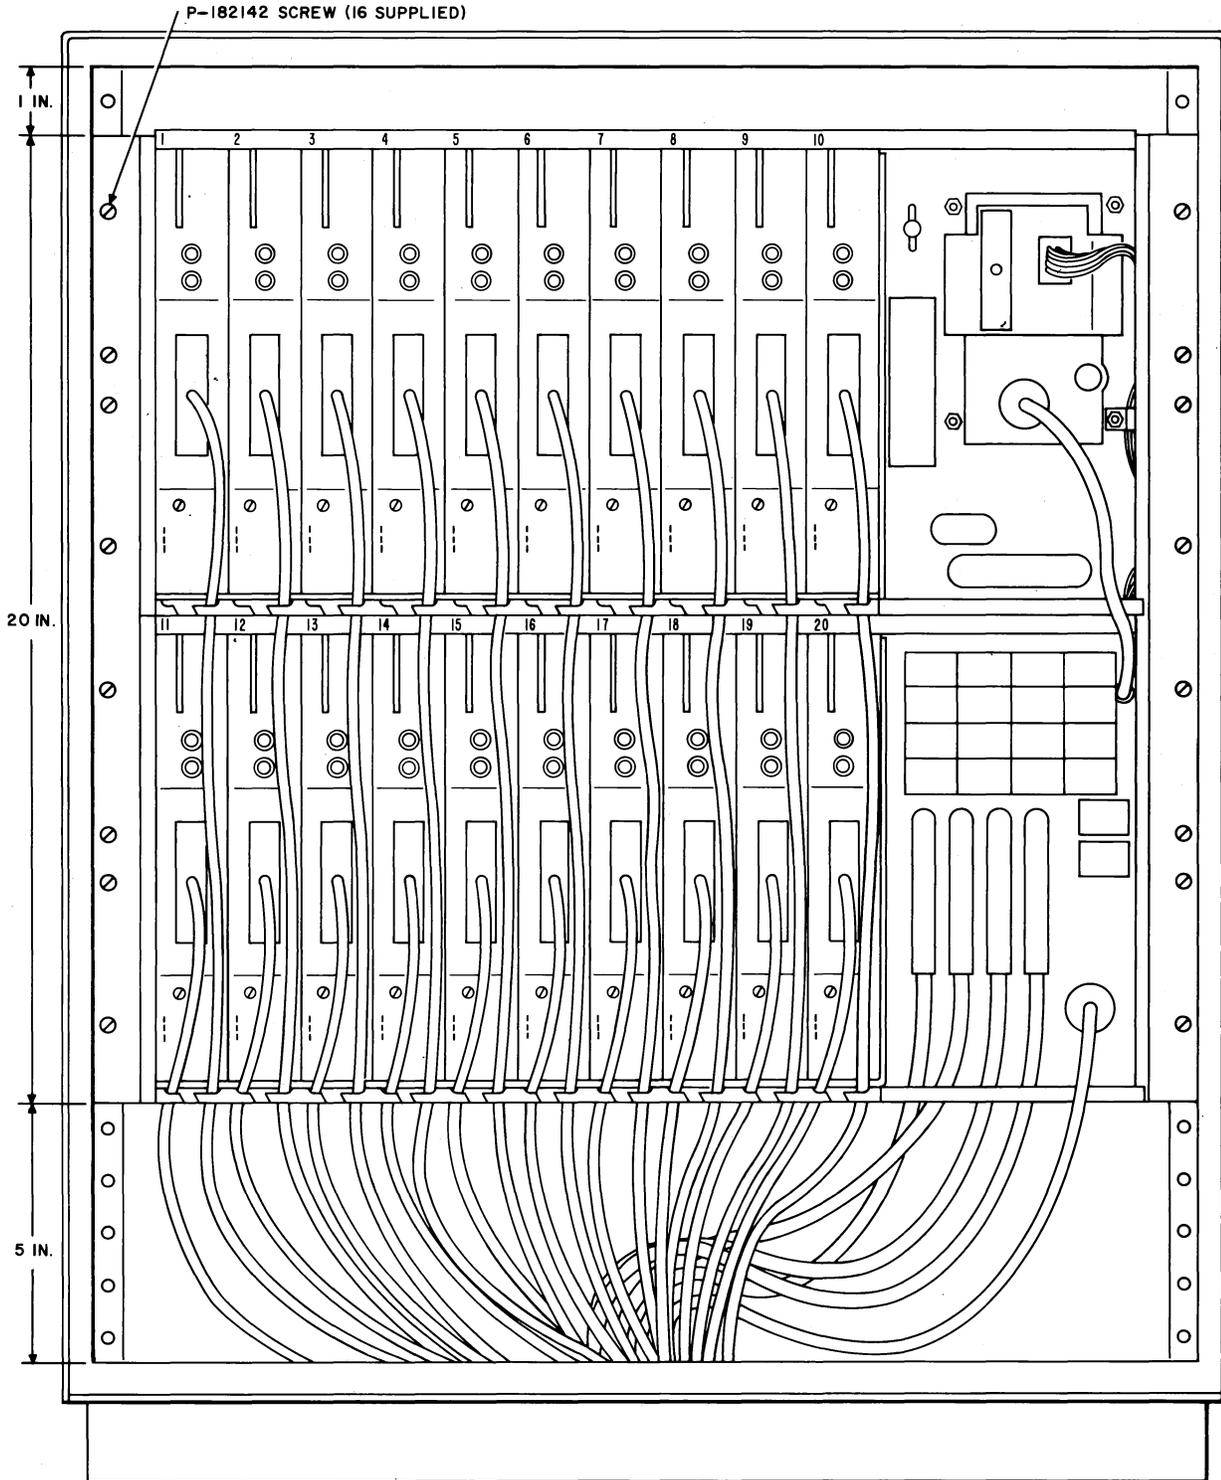

Fig. 3—113-Type Data Station Mounted in a KS-20018-L4 Cabinet
- (1) Place the KS-20018-L4 cabinet on its back.
- (2) Carefully lower the 32A1 data mounting into the cabinet and align the top mounting hole of the 32A1 data mounting with the third hole from the top of the cabinet mounting bracket as shown in Fig. 3.
- (3) Using at least eight of the sixteen P-182142 (12-24 by 1/4 inch) BHM mounting screws